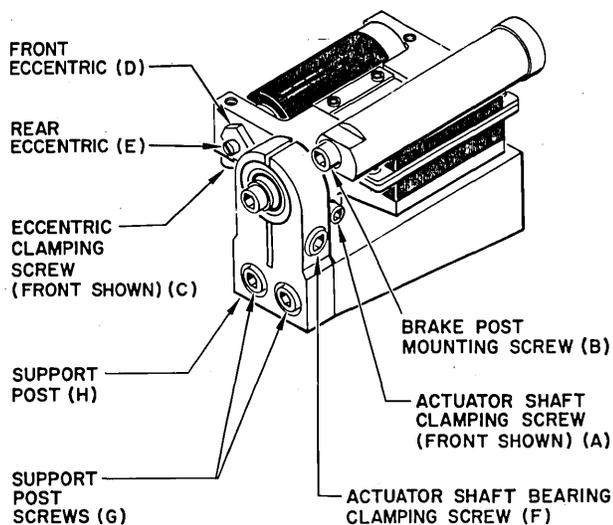

Figure 4-1.
4-7. CAPSTAN ROLLER ADJUSTMENT. The capstan roller assemblies must be carefully adjusted to meet start/stop time and distance requirements. In addition, no "skew" of the tape as it emerges from the capstan and capstan roller may be tolerated. (See Figure 4-1.)
- Step 2: Referring to Figure 4-1, loosen the two socket head cap screws (A) which clamp the capstan roller yoke to the actuator shaft.